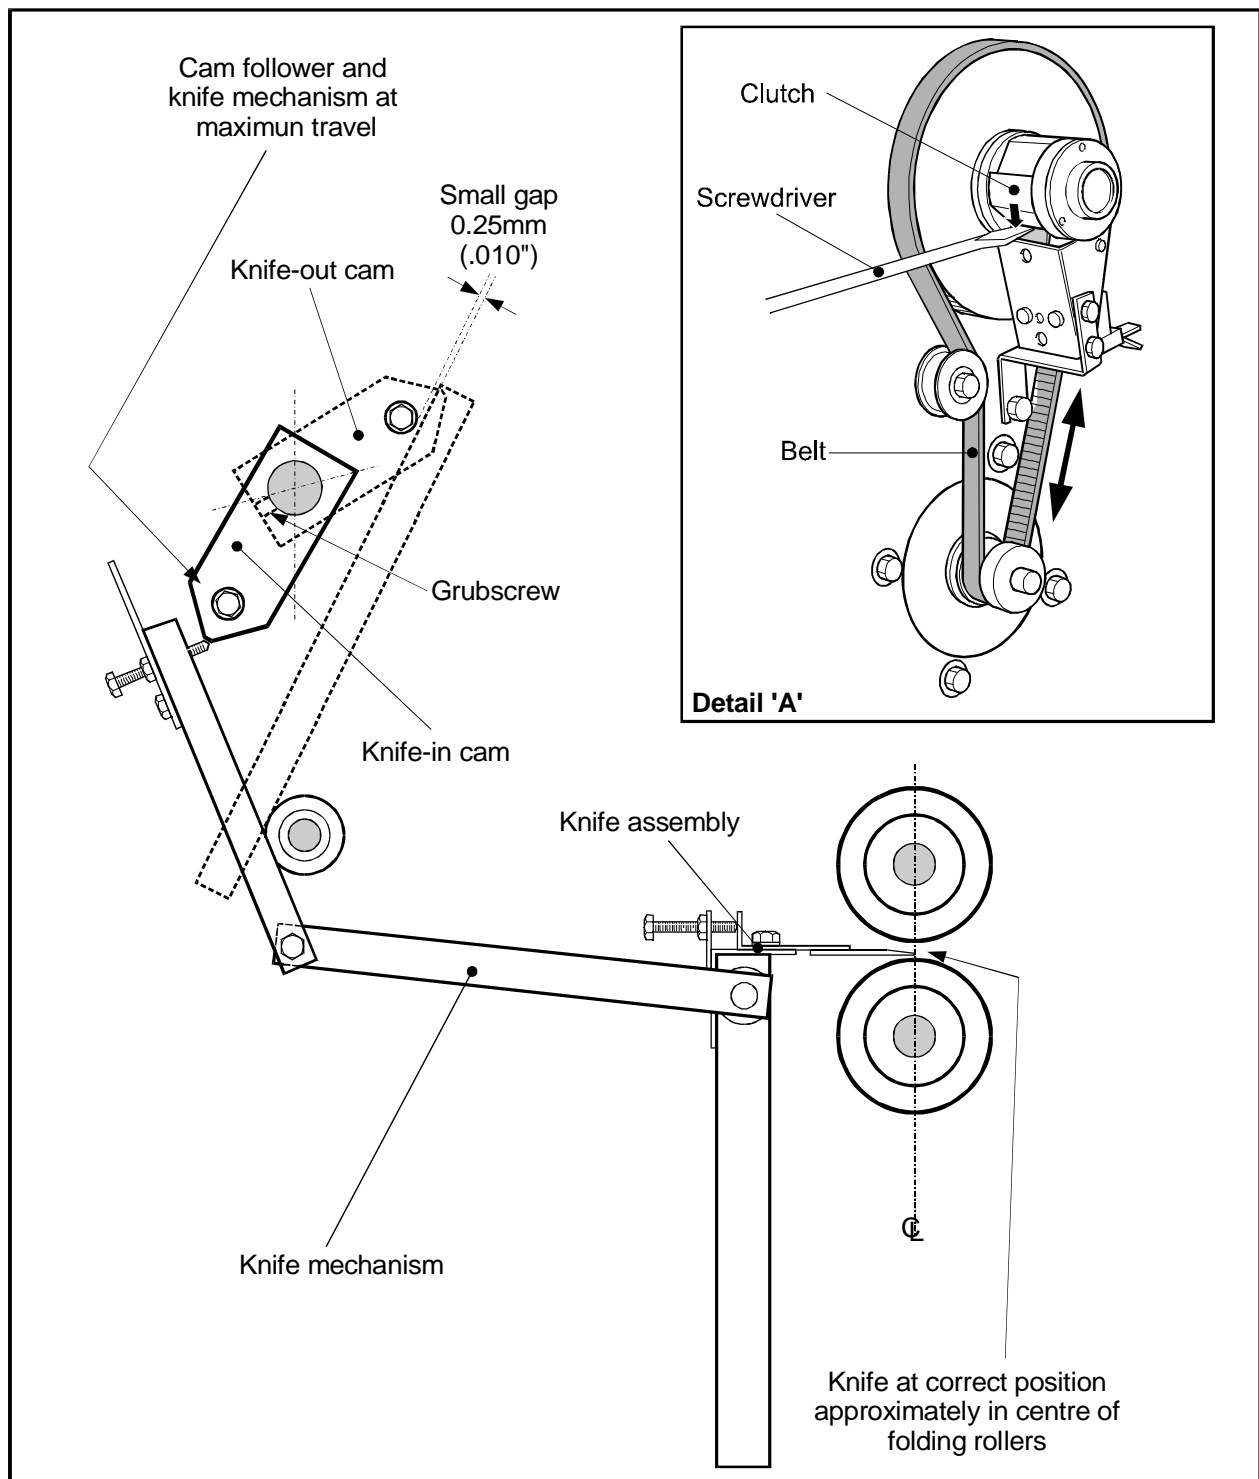

Figure 4.1 - Knife at maximum travel position.
3. Using a flat head screwdriver, release the clutch by pushing down the clutch release plate. See detail A, figure 4.1.
4. Turn the clutch pulley mechanism manually clockwise until the knife assembly is at its furthest position between the fold rollers, figure 4.1.